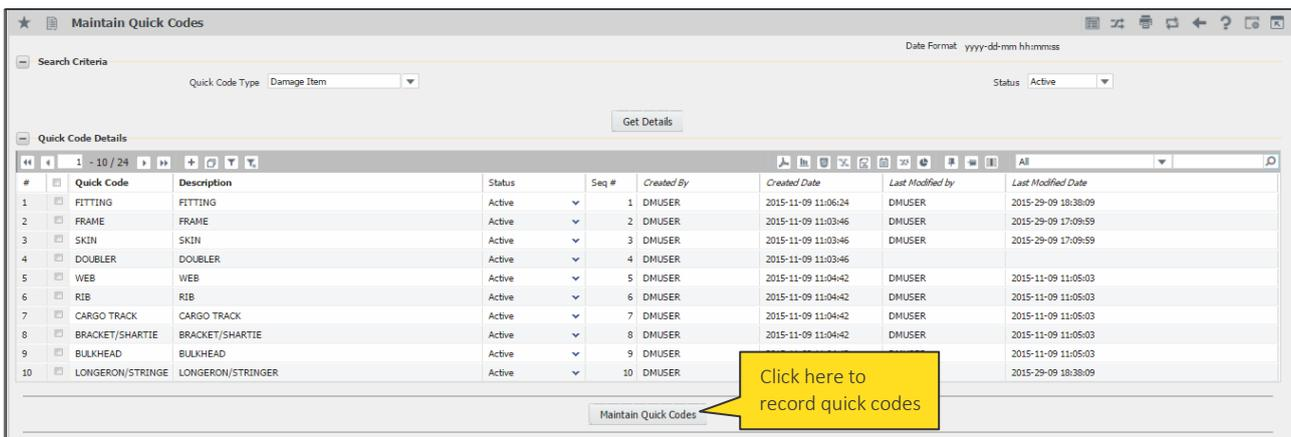

Figure 3.1 Maintain quick codes
1. Select the **Maintain Quick Codes** activity under the **Structural Damage Report** business component. The **Maintain Quick Codes** screen appears. See *Figure 3.1*.